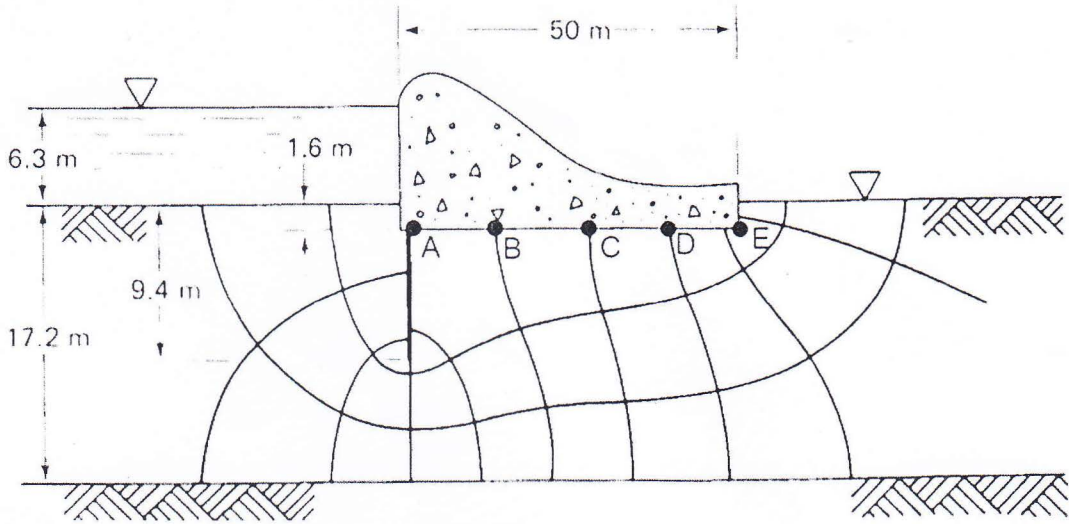

Figure 4
11. A flownet is drawn, as shown in Figure 4, for calculating seepage flow underneath the dam.